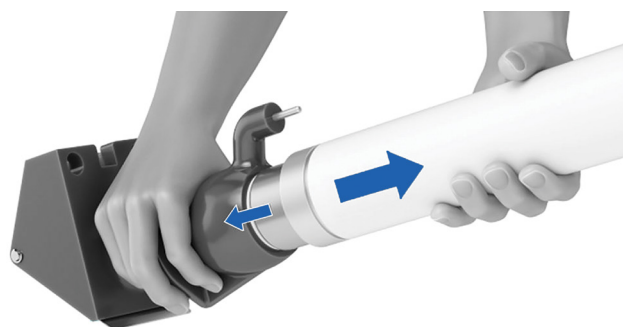

Figure 4-21: Release fuse in the holder
7. Pull the contact ring backwards to release the fuse contact clamp in the holder. See figure 4-21.